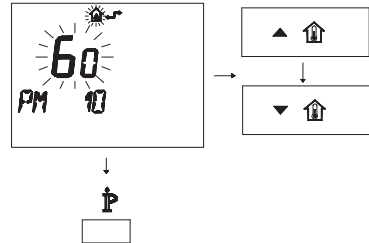

Fig. 7.39
- To modify the programmed SET, act on buttons **▲** and **⬆** or **▼** and **⬆** and wait for the number programmed to flash (Fig. 7.39).